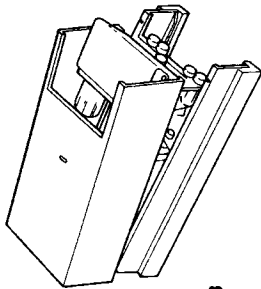

Fig. 8
**Delivery (fig 8)**
Slightly lift the casing and slide it gently towards the top of the appliance to disengage the case from the top suspension hooks. (Fig 8)